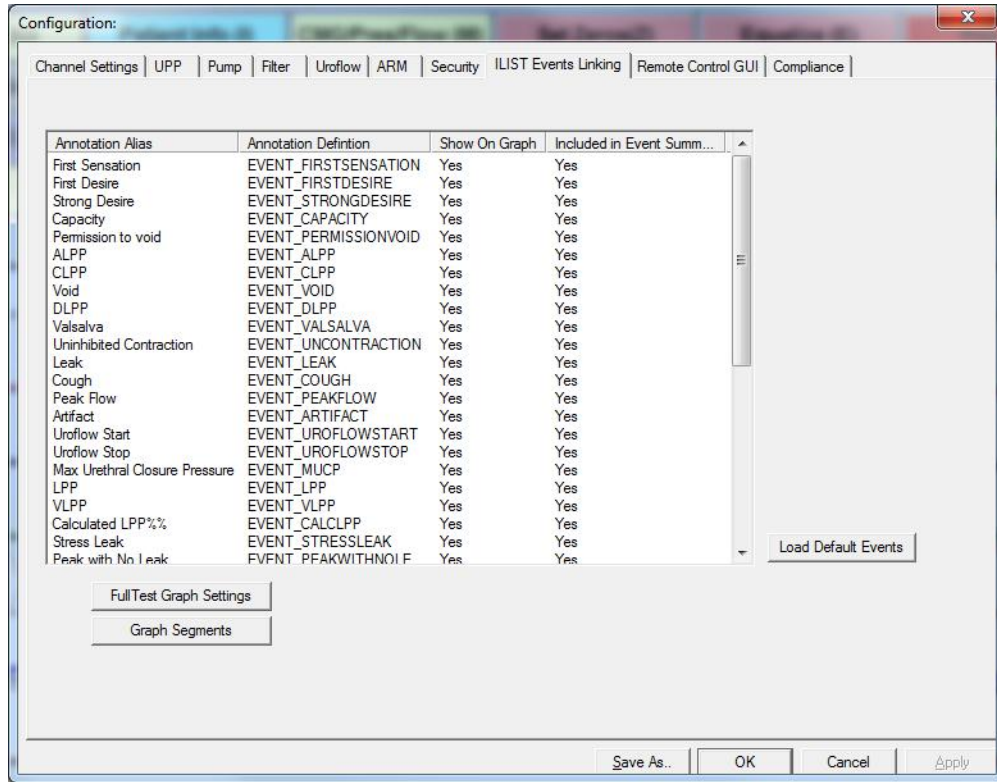

Figure 77: Configuration Window – I-LIST Events Linking Tab
2. Click the I-LIST Events Linking tab (Figure 77).